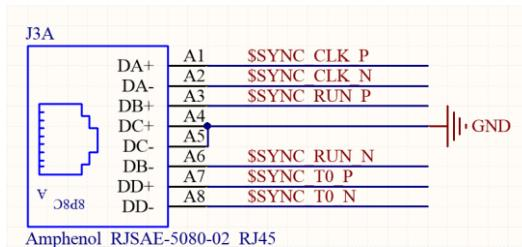

Figure 11.7: pinout of the SYNC RJ45 connector of the R5560SE
- pin A1/A2 of the SYNC IN connector (see Figure 11.7)
- The 25 MHz input clock can be routed to the LEMO OUT 0 or to the pin A1/A2 of the SYNC OUT connector (see Figure 11.7) on the front panel of the R5560SE